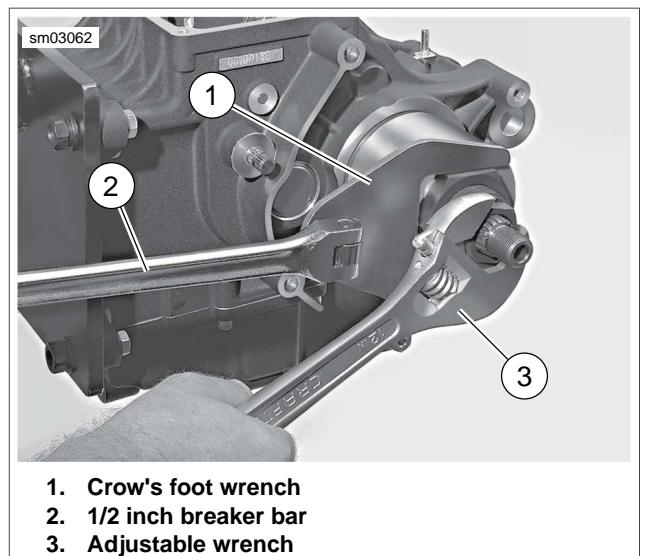

Figure 7-52. Press Seal Into Crankcase
7. See Figure 7-52. Place CROW'S FOOT WRENCH (Part No. HD-47856-7) (1) with 1/2 inch drive breaker bar (2) on large nut. Place an adjustable wrench (3) on flats of hex head cast into end of adapter.